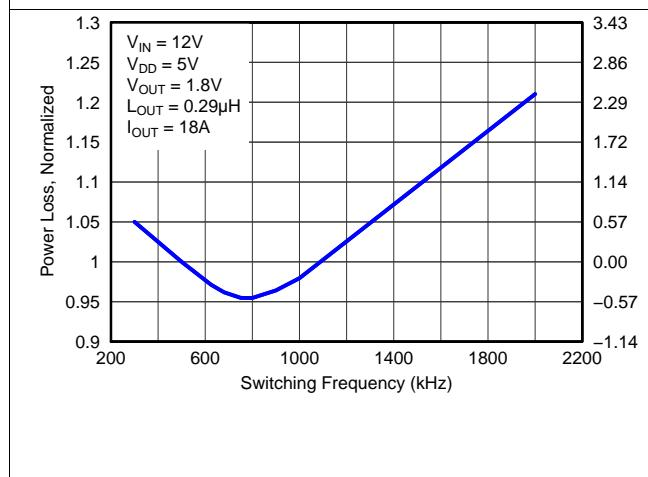

Figure 5. Normalized Power Loss vs Frequency
- Normalized Power Loss for switching frequency \approx 1.09 (Figure 5)
- SOA adjustment for switching frequency \approx 1.1°C (Figure 5)